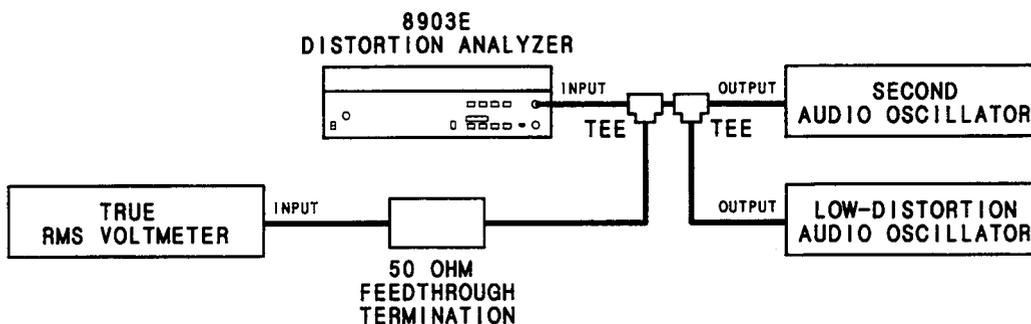

Figure 4-3. Distortion and SINAD Accuracy Test Setup
2. Connect the equipment as shown in Figure 4-3. The output impedance of both oscillators should be 50Ω. Set the voltmeter to read ac volts. Set the output of the low-distortion oscillator to 6V into an open circuit.